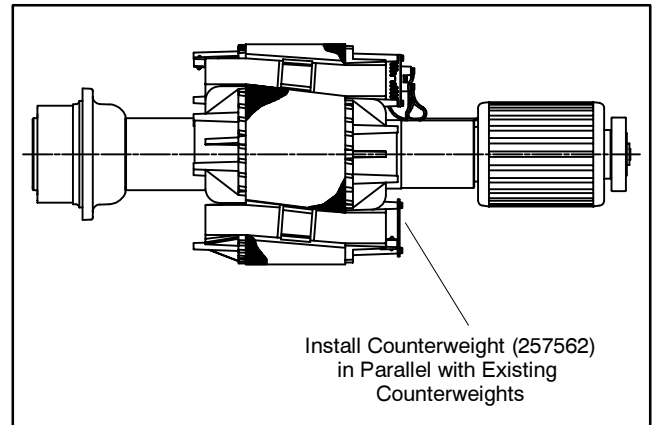

Figure 7 Counterweight Installation
15. Remove four screws and washers securing counterweights to rotor. See Figure 7. Position new counterweight (257562) in parallel with existing counterweights and secure in same position on rotor. (The additional counterweight is necessary to counteract the additional weight of the SCR assembly.) Secure counterweights with original hardware.